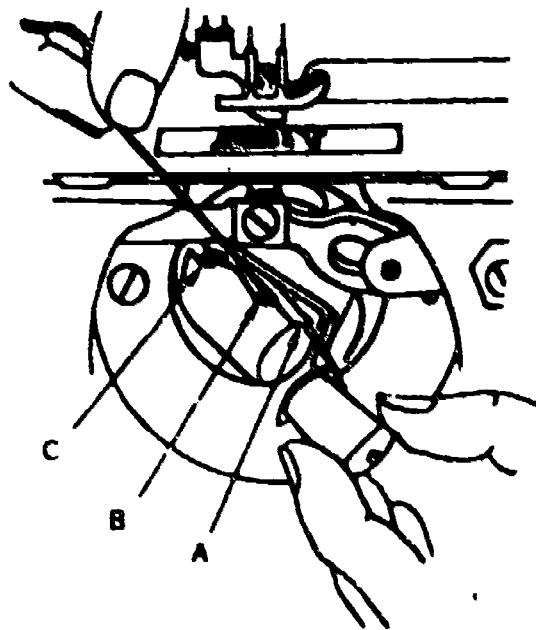

Figure 5. Replacing the Bobbin.
- m. Hold the bobbin between the thumb and forefinger of the left hand with the cord drawing off from the underside and toward the right, as shown in figure 5.
- o. Draw the cord under the tension spring A into the delivery eye B, figure 5.